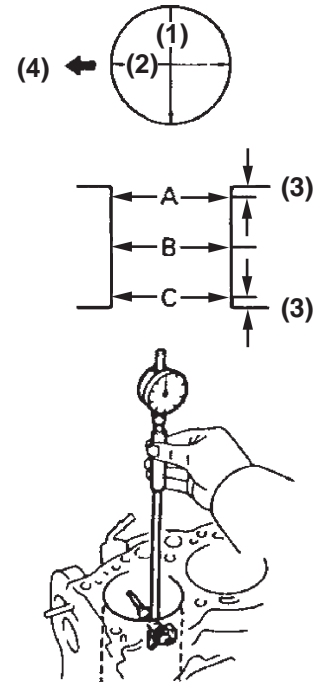

Figure 5-103
5. Measure the cylinder bore diameter at points A, B and C in the thrust (**Figure 5-103, (1)**) and axial directions (**Figure 5-103, (2)**), using a cylinder gauge.